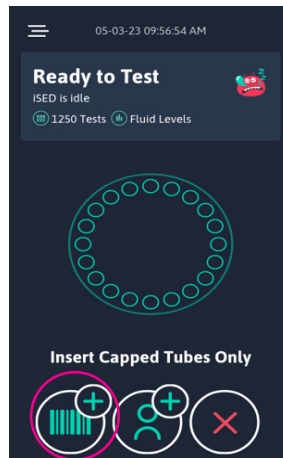

Figure 21
1. Select the barcode icon with the plus sign (Figure 21).